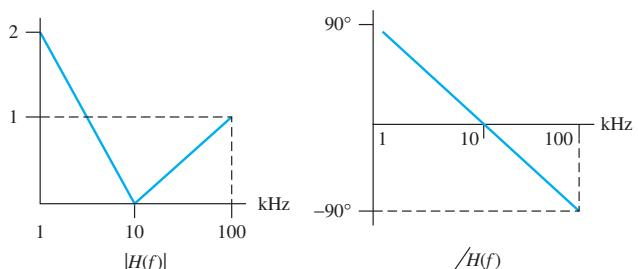

FIGURE P7.16 Frequency response for Problem 7.16.
- 7.16** (B)* Find the output of the filter represented by the frequency response in Figure P7.16, given this input: